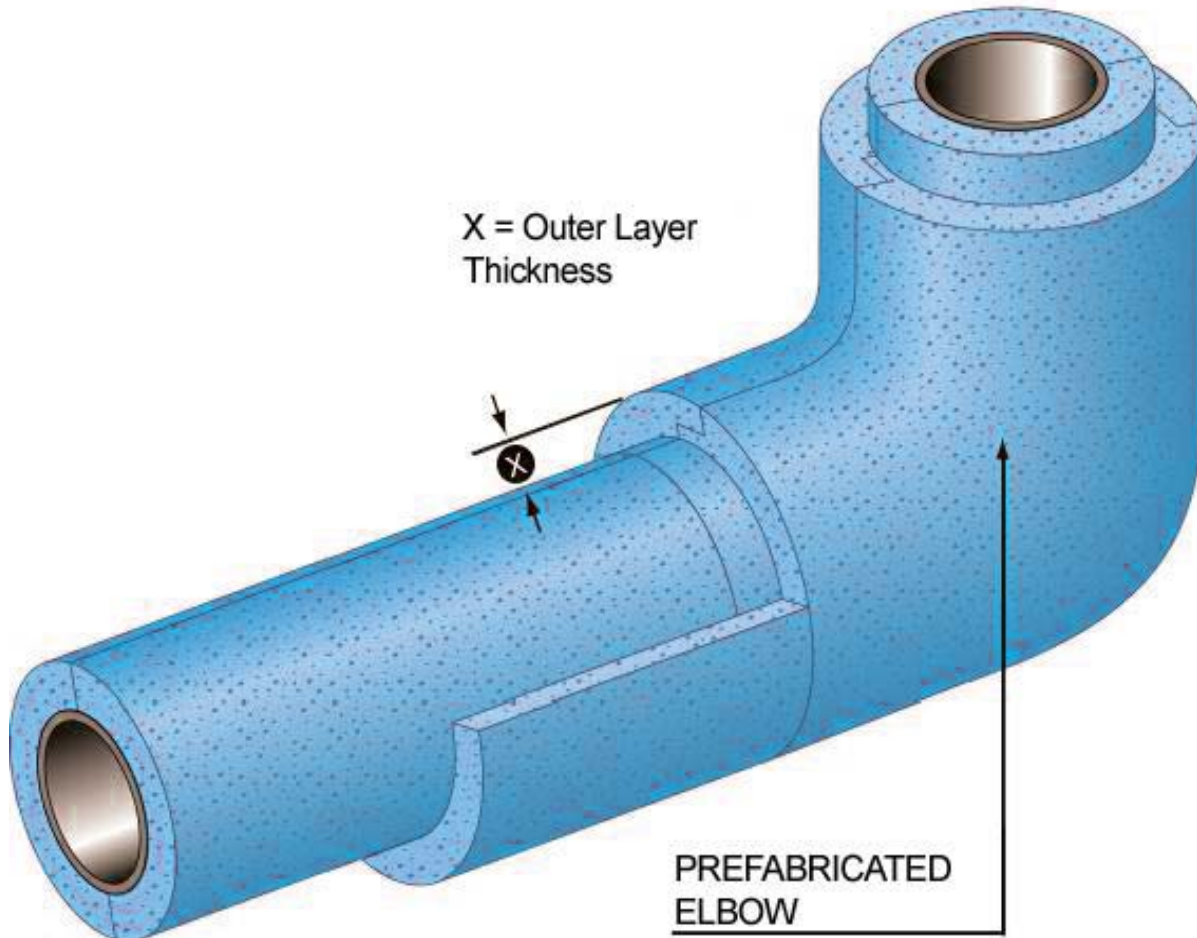

Figure 4
- 4.1.4 If a double layer system is required, all fittings shall be double layered. Fittings may be cut to full thickness in lieu of double layered if they are fabricated with shiplap butt ends. Depth of the shiplap shall be cut to the thickness of the inner layer to allow the outer layer to overlap creating a staggered joint. Refer to Figure 4 in Appendix B.